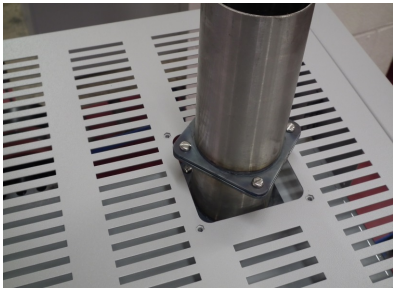

Fig 10 - Remove the chimney panel
- Remove the chimney panel, (see Fig 10.)